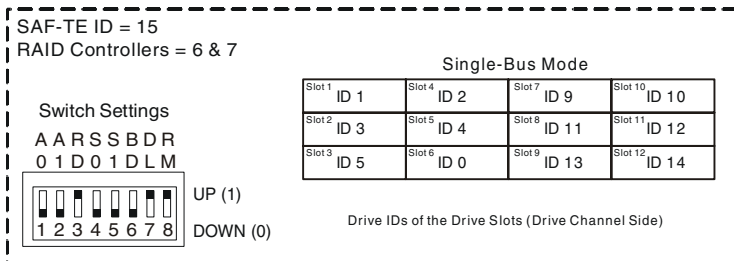

Figure C-11 Switch Setting – Single-Bus Daisy-Chain Enclosure
- Locate the switches on the card and set them as shown in Figure C-11.